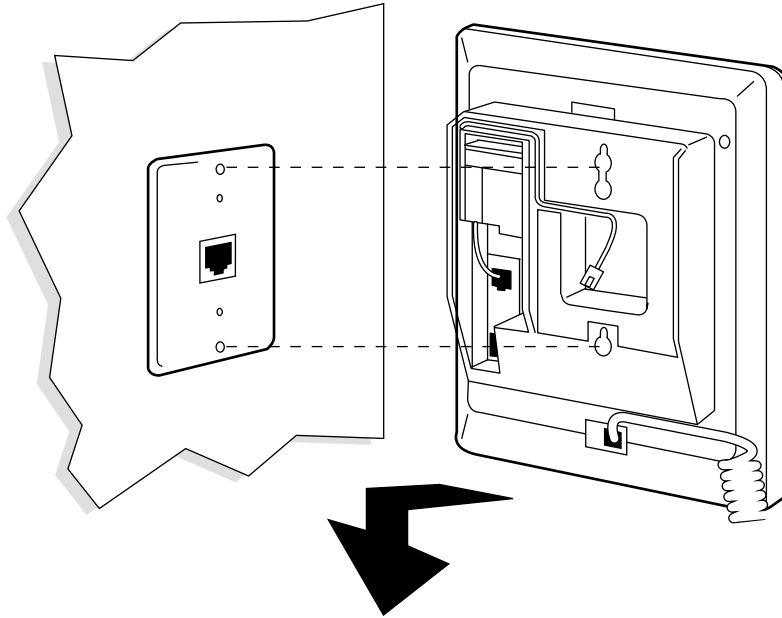

FIGURE 7-10. Placing the Voice Terminal onto the Wall Jack Mounting Studs
11. Place the base of the voice terminal on the wall jack mounting studs, and pull downward until it is secure, as shown in Figure 7-10.